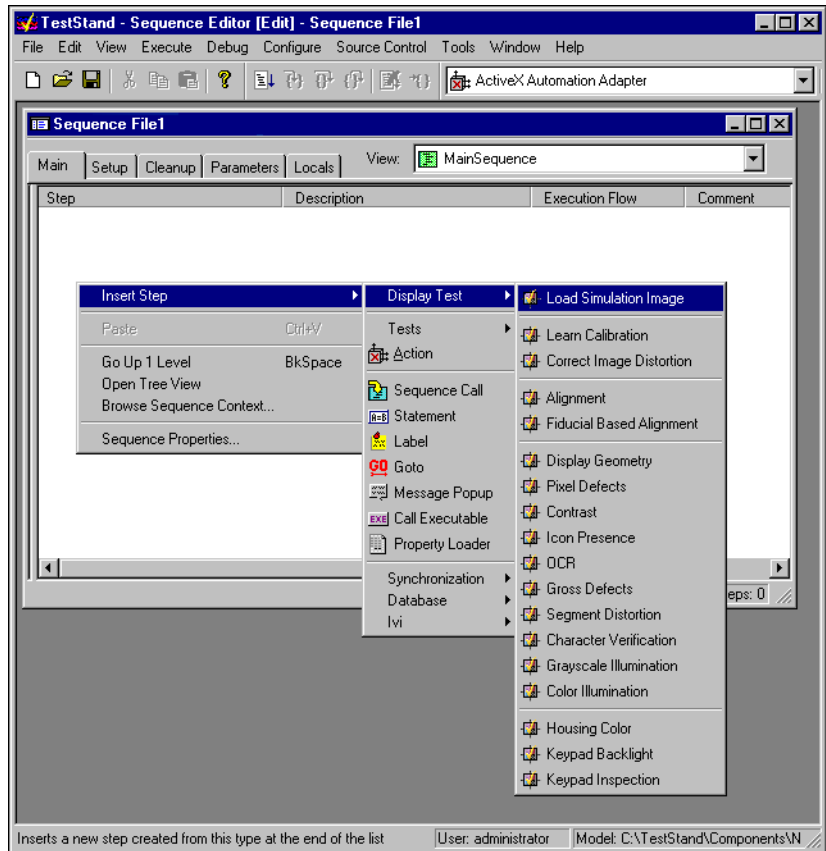

Figure 2-5. Selecting and Inserting an NI Display Test Step
1. Right-click in an open area of the Sequence File window, and select **Insert Step»Display Test»Load Simulation Image** from the context menu, as shown in Figure 2-5. TestStand gives the step a default name, which appears highlighted immediately after you add the step to the sequence.